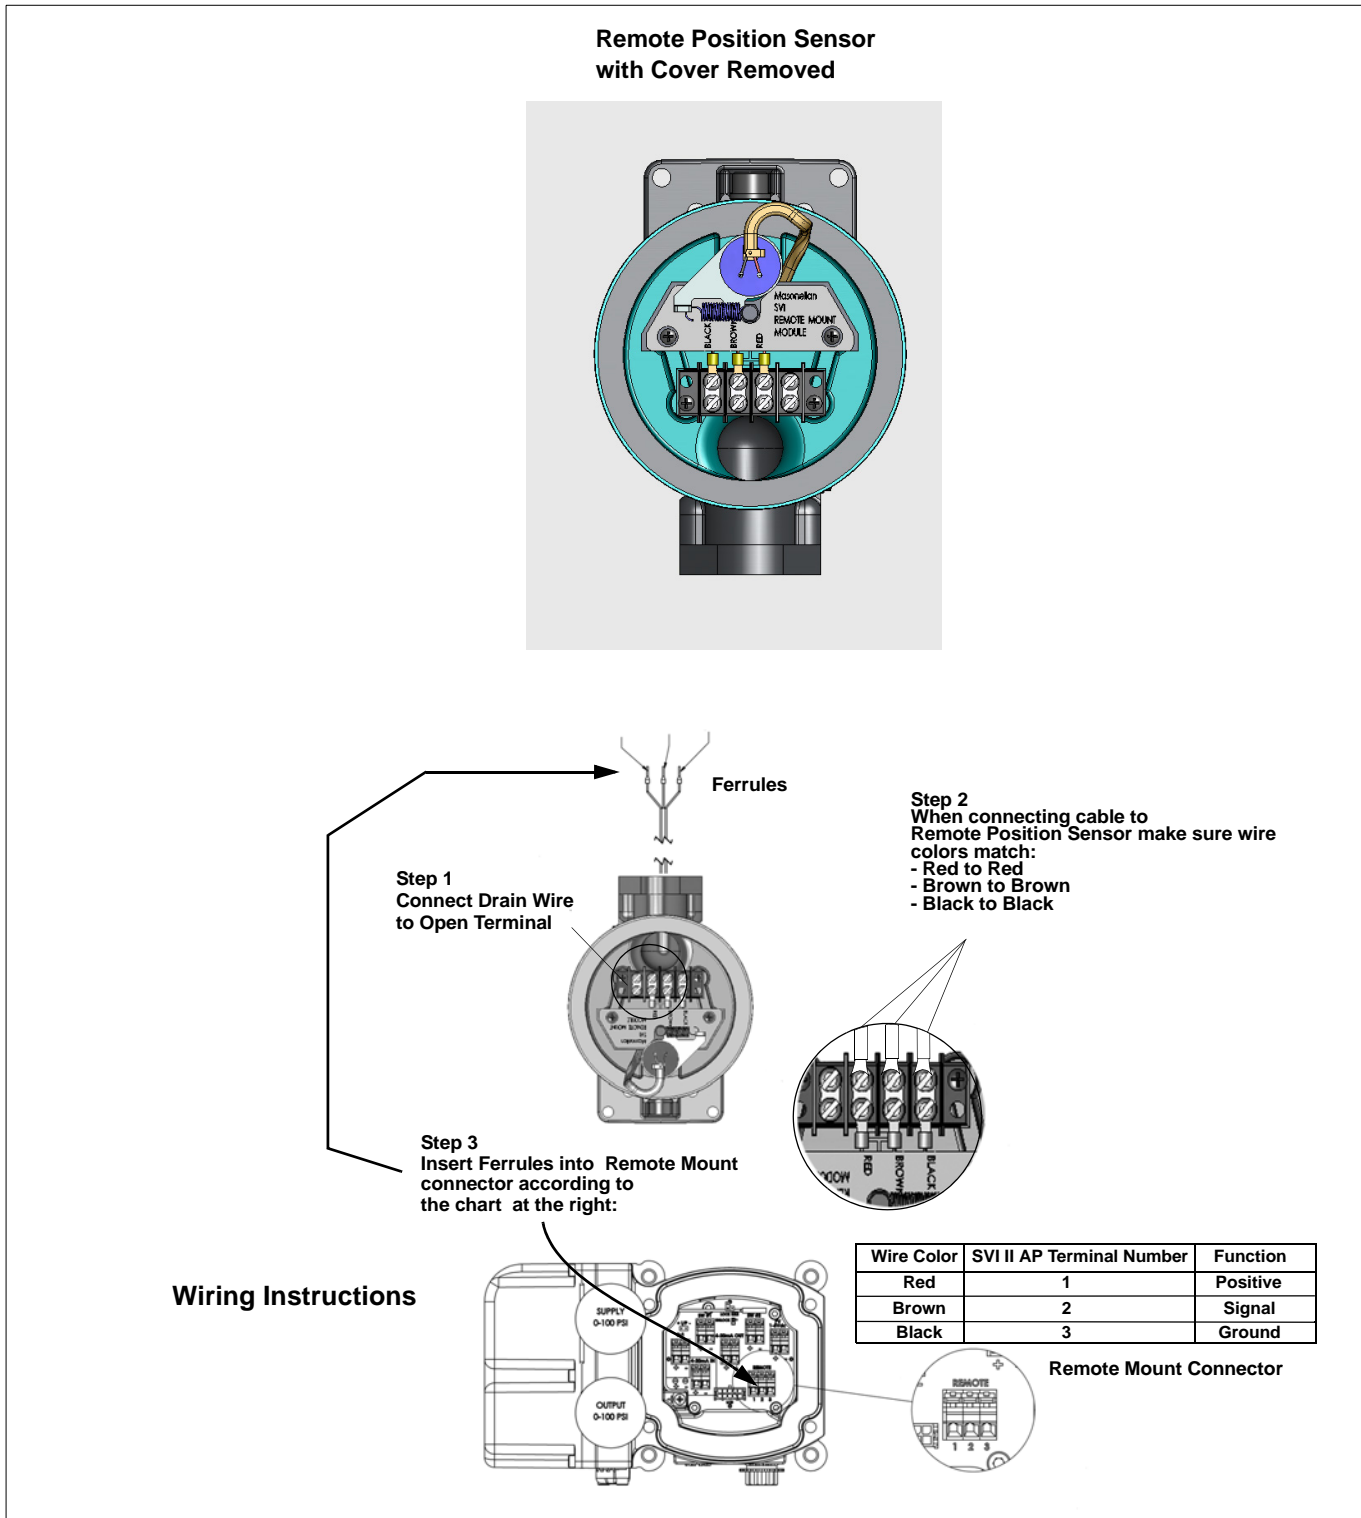

Figure 18 Remote Position Sensor (Cover Removed) and Wiring
6. Using a blade screwdriver, loosen the screws on the terminal strip and connect the wires; black-to-black, brown-to-brown and red-to-red. Then retighten the screws. Refer to Figure 18 on page 26 for Remote Position Sensor Wiring.